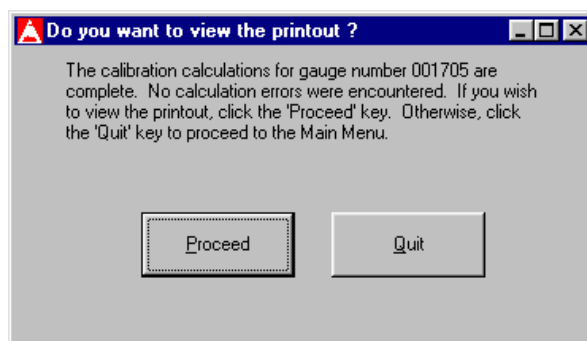

Figure 4–23. View Calibration Constants Printout Query
21. When the **(Proceed)** key is clicked, the calibration sheets are formulated and displayed as shown in Figure 4–24. The entire text of the calibration sheets, in formatted form, is shown in the text box on this screen. The user can scroll up and down this text box to view the calibration sheet in its entirety. These sheets can be displayed in Metric or Imperial (English) units by clicking the appropriate option button in the lower right-hand portion of the screen.